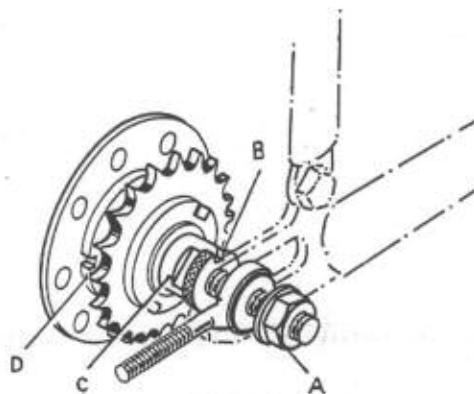

Fig. W4
Only one adjustment is necessary on the hub ballraces and this is provided on the right hand side of the spindle. To carry out this adjustment, slacken the spindle retaining nut (A. Fig. W4) on the right hand side of the engine unit and the adjusting cone locknut (B). The cone (C) can then be adjusted, and this adjustment should be carried out so that with the locknut (B) and spindle retaining nut (A) retightened, there is just perceptible play (*i.e.*, about $1/64$ in.) at the wheel rim. This may be judged by screwing in the cone until resistance to free-wheeling of the sprocket can be felt and then unscrew the cone about a quarter of a turn before tightening the locknut. The amount of play at the wheel rim must always be the final test and it is most important that this adjustment is accurately carried out.